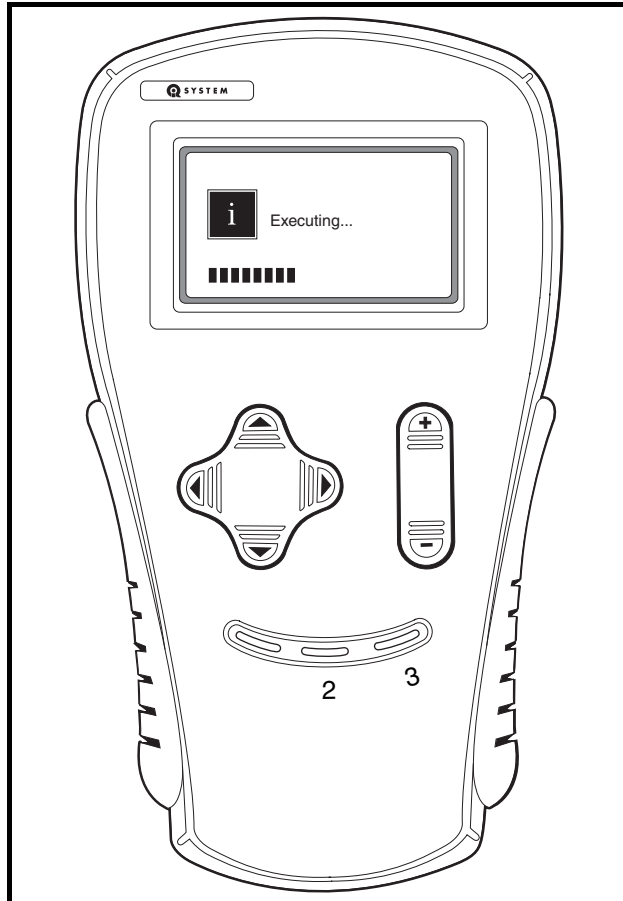
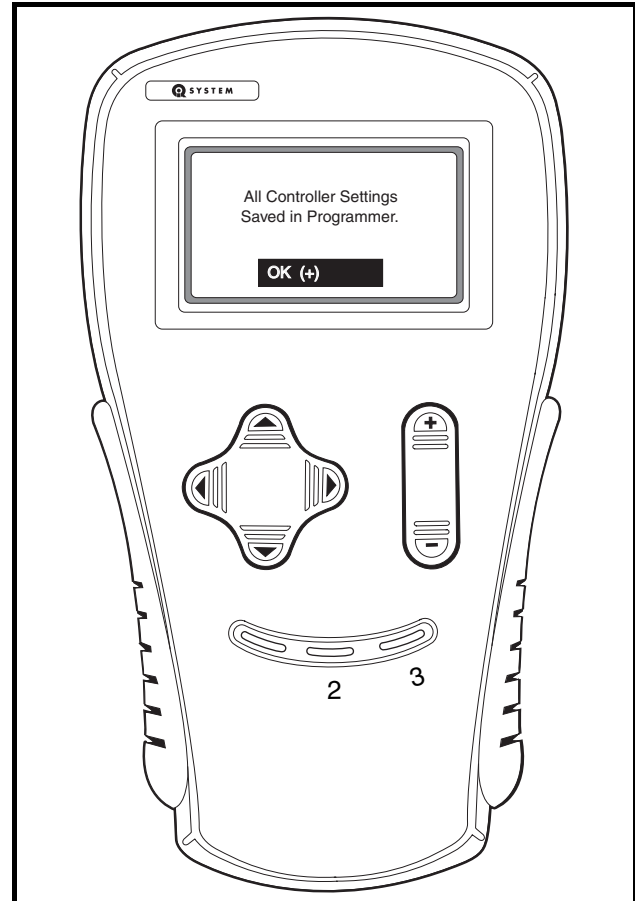

Figure 12-3 Handset Executing
Figure 12-4 Confirmation Message
- 3.4. Align the keyed portion of the plug with the IQDM jack and connect the plug to the jack (**Figure 12-3 or Figure 12-4**).
8. The handset will display an “executing...” message for the next few seconds while the controller settings are being stored in the handset’s memory (**Figure 12-3**).
9. When the handset is finished recording the speed controller settings, a confirmation message is displayed (**Figure 12-4**).
- 4.4. Align the keyed portion of the plug with the IQDM jack and connect the plug to the jack (**Figure 12-3 or Figure 12-4**).
9. The handset will display an “executing...” message for the next few seconds while the controller settings are being stored in the handset’s memory (**Figure 12-3**).
5. The handset will display an “executing...” message for the next few seconds while the controller settings are being stored in the handset’s memory (**Figure 12-3**).